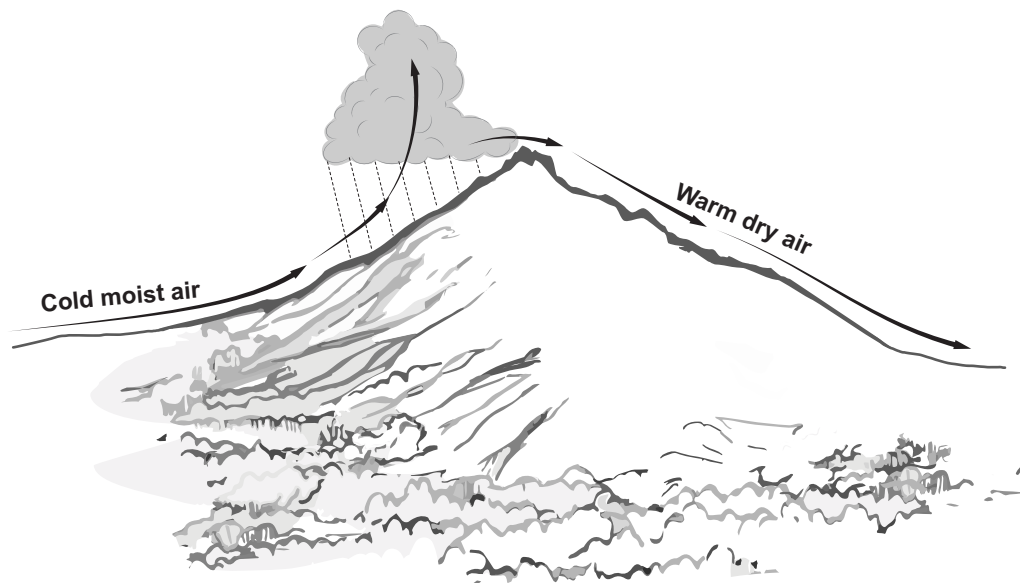

Figure 1-3. Orographic Uplift.
- **Orographic Uplift.** This uplift happens when an air mass is pushed up and over a mass of higher ground, such as a mountain (see Figure 1-3). Due to the adiabatic lapse rate, the air cools as altitude increases and, when it reaches its saturation point, produces precipitation.